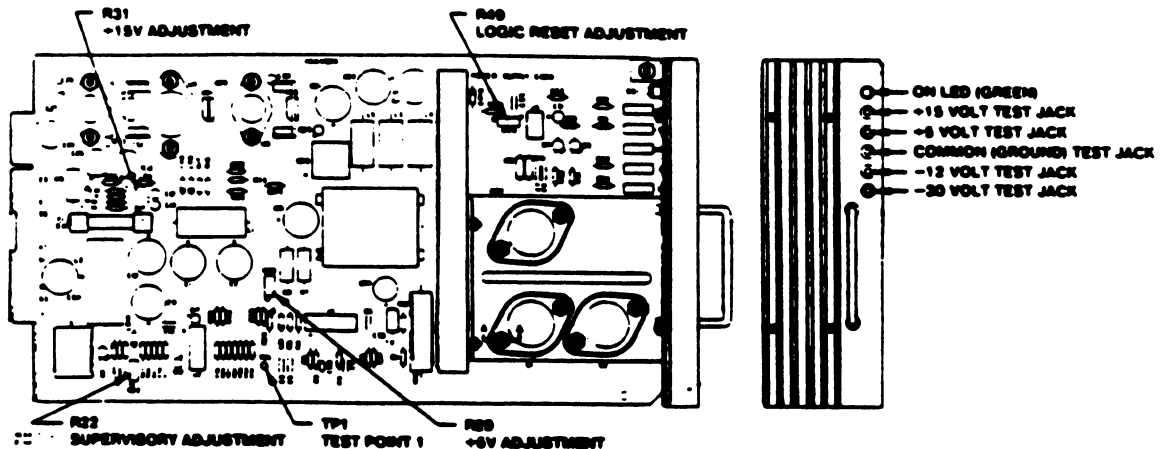

Figure 5-4. Power Converter Card (for Highway Devices) PN46A4233
2. Insert the power converter card shown in Figure 5-4 in the test slot labeled MUX POWER CARD.